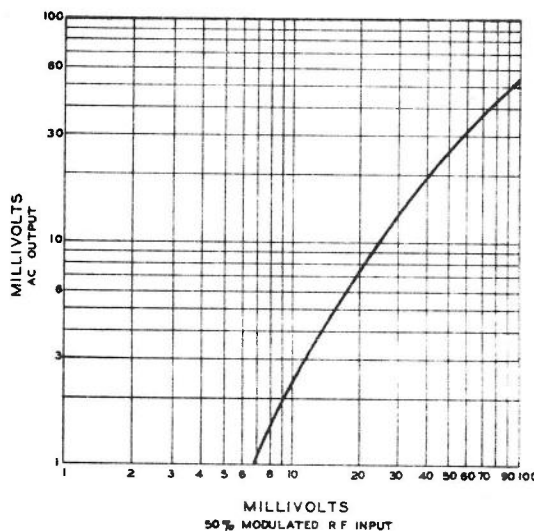

Figure 4-7. Curve Showing Modulated RF, IF Voltage Input to Test Prod MX-934/U vs. AC Output Voltage
(5) When connected to the Test Prod MX-933/U, the Signal Tracer can be used as a null voltage indicator. The sensitivity of AC impedance bridges can be increased by connecting the bridge output into the input of the Signal Tracer. Care should be taken that both the Signal Tracer and the ground of the bridge are externally grounded at the same point.
(6) When used with Test Prod MX-934/U and Extension Rod the Signal Tracer is a radio interference locator. A common source of radio interference is the arcing at the brushes of electric motors. With the aid of the Telephone Receiver as a detector, the Prod is moved into the vicinity of the suspected motors. Once the interference can be heard in the earphone, the Prod is moved in the direction of loudest signal to the arcing brushes.
(7) The Test Prod MX-934/U and Signal Tracer can be used to check the approximate gain of RF and IF amplifier stages. (See paragraph 4c.) (A sine wave generator must be used for these gain tests, as the generated signals from the Interference Generator are attenuated rapidly by tuned circuits, and this unit can only be used for audio gain checks.)
(8) With Test Prod MX-934/U the Signal Tracer can be used for servicing low level RF lines. To check a line for center conductor continuity, open the line at a jack and place the Prod near the center conductor. Audio modulation of the RF voltage is detected through the earphone. An RF line carrying its maximum power should not be opened. A mismatch may occur with arcing of the line.
(9) The RF Test Prod MX-934/U can be used as a demodulator for an oscilloscope or an electronic voltmeter. Figure 4-7 shows the relation between 50% modulated IF or RF voltage input and modulation voltage output of the Prod.